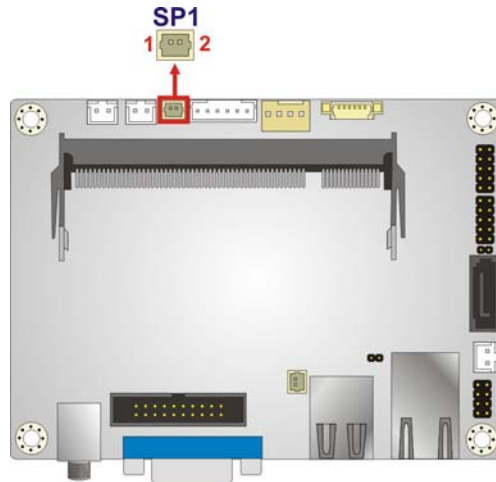

Figure 3-6: Buzzer Connector Location
- CN Location: See **Figure 3-6**